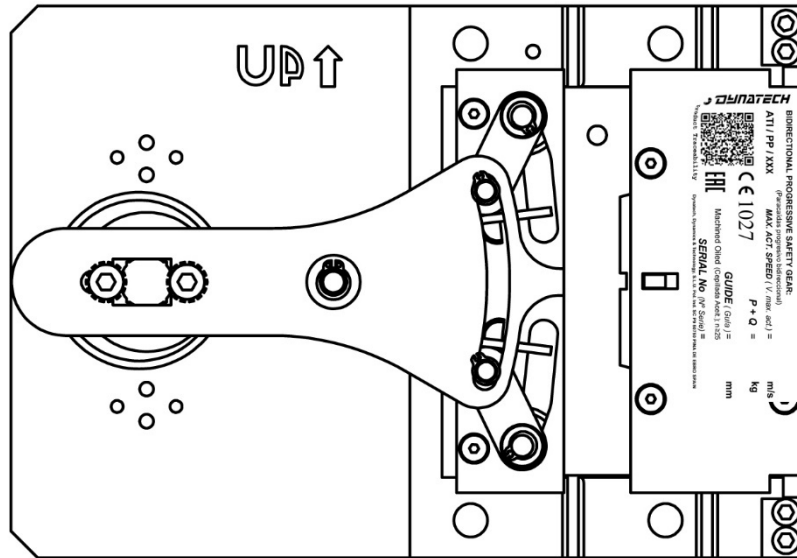

Figure1 Safety gear ASG UD/ ASG
8. Place the identification sticker on the upper part, as shown in Figure1.